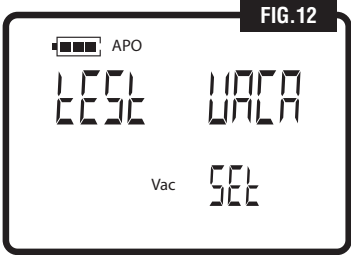

FIG.12
6. At **Main Screen** [FIG.1] press [TEST]. The **Test Vacuum Set Screen** appears [FIG.12]